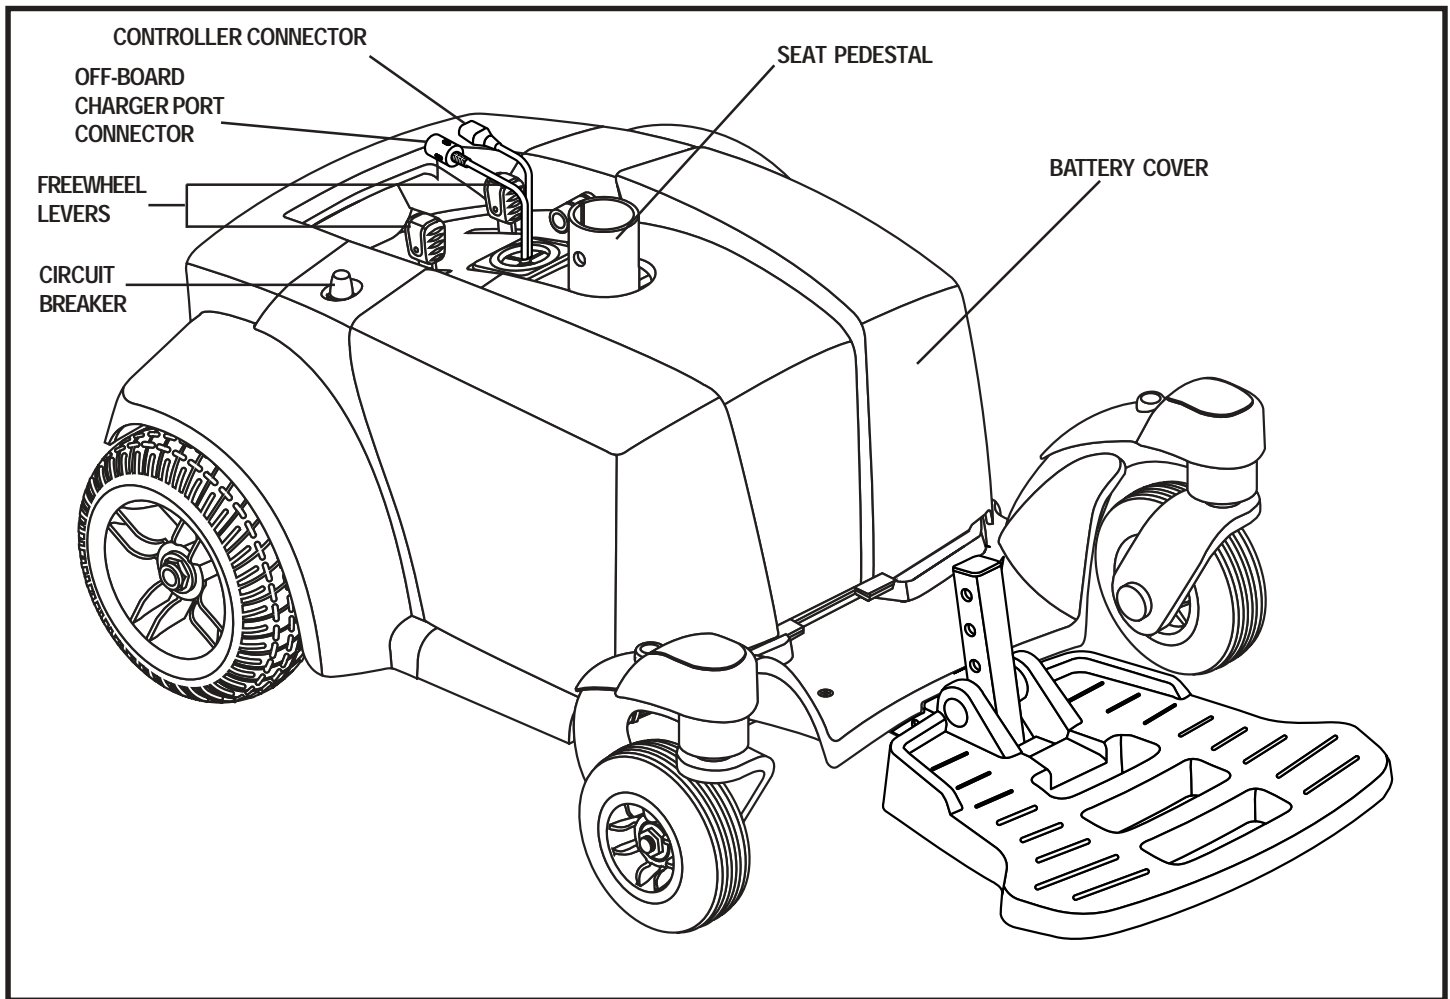

Figure 6. The Jazzy Go 2 Power Base
The electrical components are located on the power base. The main circuit breaker is located toward the rear of the power base. The controller and charger connectors are located on the rear of the power base. See figure 6.
5. Plug the controller and off-board charger port cables into the connectors on the power base. See figures 6 and 9.